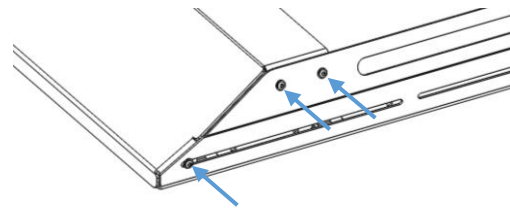

Figure 15: Front Air Dam Assembly
9. Install the Air Dam in the front as shown in Figure 15 on both sides with the #10-32 x 3/8" bolts.